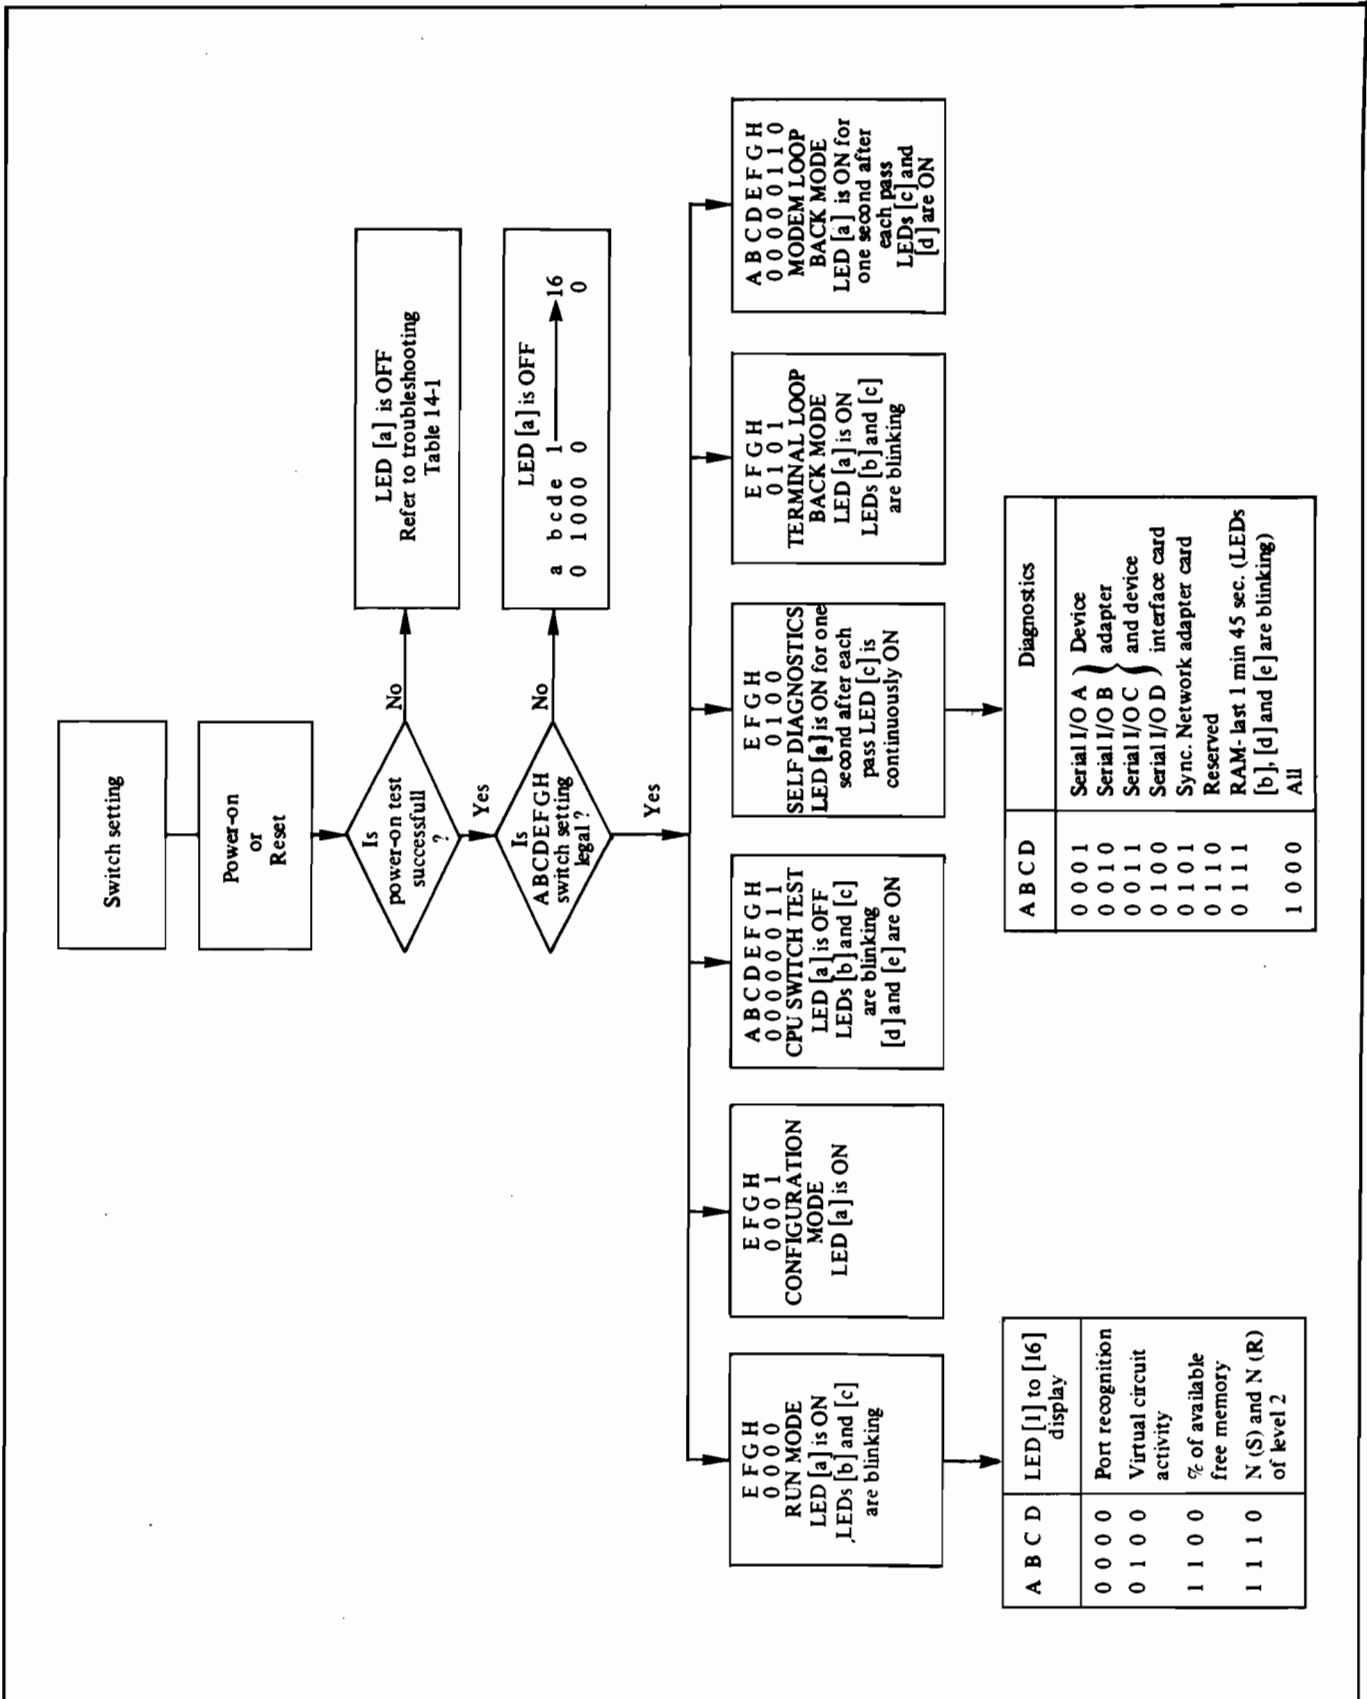

Figure 14-1 Power-On & Troubleshooting Sequence
When performing the troubleshooting procedure refer to Figure 14-1 and Table 14-1. Figure 14-1 lists the sequence of events at power-on, and the mode/test selected depending on the DIP switch setting. Table 14-1 describes each self test, lists all the LED error readouts and details the action(s) that should be taken, depending on the error condition. Note that the self-tests stop execution at the first error detected and the error is then displayed on the LEDs.
- 2) **Power On Test: Power ON.** If the power-on test fails BEFORE the Device Interface PCA detection (Power On Test (8) in Table 14-1) then take the action described in Table 14-1; otherwise go to step (3) below.
- 4) **Power ON.** If the power-on test fails BEFORE Device Interface PCA detection (Power On Test (8) in Table 14-1) then take the action detailed in Table 14-1; otherwise go to step (5).
- inserted. Then select the switches test (see Figure 14-1).
- 6) Power ON. If the power-on test fails BEFORE the switches test (see Table 14-1) then take the action detailed in Table 14-1; otherwise go to step (7).
- 7) Repeat steps (3) to (6) for each Device Interface/Device Adapter PCA that must be re-installed in the HP2334A Plus. Then go to step (8).
- 9) **Self Diagnostic Tests:** Plug a test connector on each I/O port of the Device Adapter PCAs; i.e. use one connector part number 02620-60062 on each of the ports of the Device Adapter PCA. Then select the off-line closed loop self diagnostic test to be performed on the Device Interface/Adapter PCA combination which is fitted with the test connectors (see Figure 14-1).
- 10) Press and release the Reset push-button mounted on the CPU PCA. If NO failure is detected, LED [a] illuminates for approximately one second after each pass of the test (i.e. the self diagnostic test is re-started as long as the power is ON and the test conditions are not changed). Then go to step (11). If a failure is detected, refer to Table 14-1.
- 11) Repeat steps (9) and (10) for all the Device Interface/Adapter PCAs so that they are plugged into the HP2334A Plus and tested sequentially.
- Select the closed loop self diagnostic test to be performed on the Synchronous Network Adapter PCA (see Figure 14-1).
- 13) Power ON. If NO failure is detected, LED [a] illuminates for approximately one second after each pass of the test (i.e. the test continues to run provided the power is ON and the test conditions are not changed), in which case go to step (14). If a failure is detected, refer to Table 14-1.
- 14) Select the extended RAM test (see Table 14-1). Then, press and release the reset push-button. If NO failure is detected, LED [a] illuminates for approximately one second after each pass of the test, LED [c] is continuously lit, and LEDs [b], [d] and [e] blink; in which case go to step (15). If a failure is detected, refer to Table 14-1.
- Press and release the Reset push-button and let the test run for several minutes, i.e. sufficiently long for any intermittent errors to be detected. If NO errors are detected, go to step (16). If a failure occurs, refer to Table 14-1.
- 16) **Terminal Loop Back Test:** Remove ALL the test connectors, connect the terminals/devices to the HP2334A Plus's device ports, then select the terminal loop back test (see Figure 14-1 and 14.3.1 for details of the test procedure). During this test the HP2334A Plus is configured to exchange data with the terminals.
- Set the local synchronous modem to enable the local modem loop back capability (see Figure 14-1 and 14.3.2 for a detailed procedure description).
- 1) Remove the HP2334A Plus front panel and set the DIP switches so that at power-on (or reset) it is set to perform a continuous terminal loop back test (see Figure 14-1); i.e. set DIP switches ABCDEFGH to 00000101.
**NOTE:** The terminal loop back test uses a pre-selected data communication configuration. Consequently, the test will only function correctly on devices set to operate as described in (2) below.
- 1) Set the DIP switches (see Section 7.2) so that at power-on (or reset) the HP2334A Plus performs the continuous modem loop back test, i.e. set DIP switches ABCDEFGH to 00000110 respectively (see Figure 14-1).